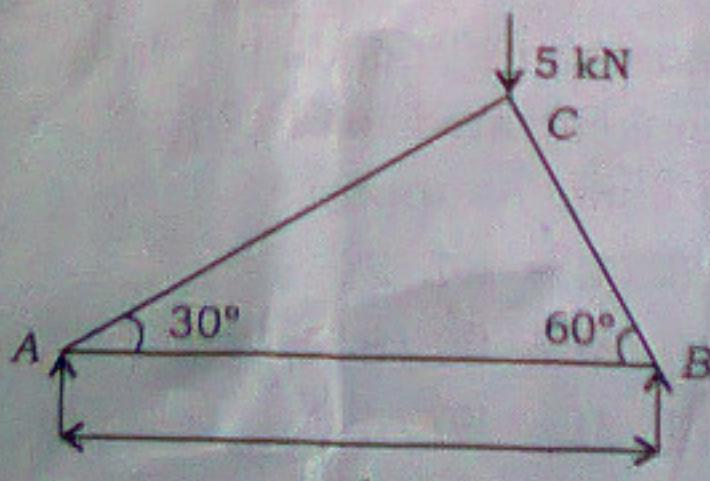

Fig. 2
- (i) Find the member force in BC as shown in Fig. 2.